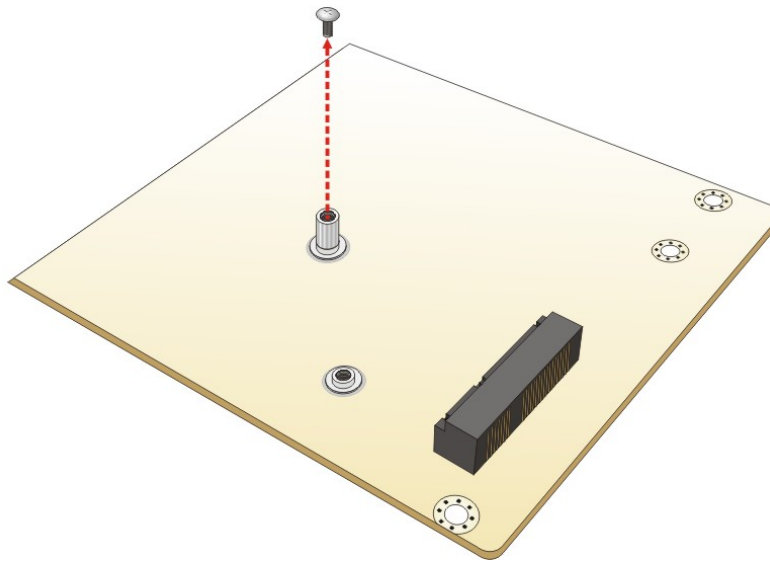

Figure 4-5: Removing the Retention Screw
Step 2: **Remove the retention screw.** Remove the retention screw as shown in **Figure 4-5**.
- Step 2:** Remove the retention screw. Remove the retention screw as shown in **Figure 4-5**.